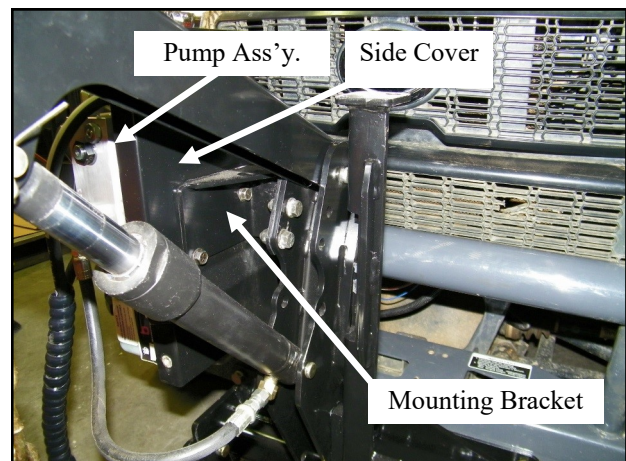

Fig. 8.1—Pump and cover installation
- 8.1. Per figures 8.1, 8.2, and 8.3, position Pump Assembly, Side Cover, and Mounting Bracket up against the top of the lift frame matching up mating holes on lift frame and mounting bracket. Using the two 3/8-16 x 1" bolts, and two 3/8-16 Nylock nuts, attach bracket to lift frame. Tighten the Nylock nuts until all thread slack is removed from the assembly.